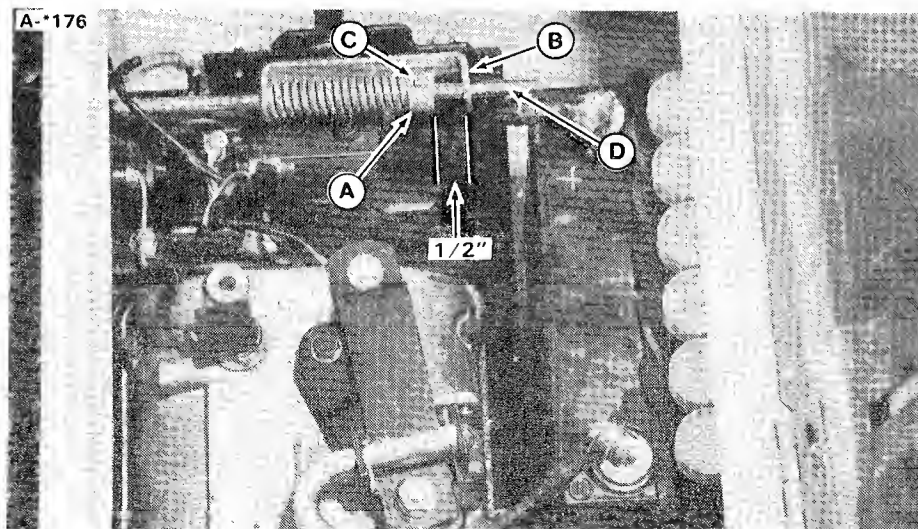

Figure 11. PTO Adjustment. Shown without fuel tank for clarity.
2. Raise the seat deck. Measure the distance between the set collar (A, figure 11) and rod guide (B). The distance should be 1/2 inch (13 mm). If not proceed to step 3.
3. Disengage the PTO. Loosen the set-screw (C) and change position of set collar on rod by pulling or pushing on rod. Tighten the setscrew.